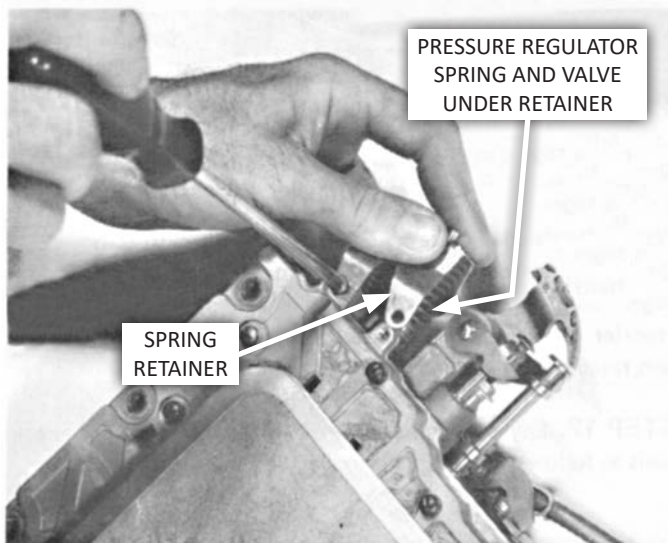

FIG. 4
5. **Carefully remove the spring retainer** (3 screws, Fig. 4).
15. Insert the pressure regulator adjusting screw and plate in the spring retainer. The edges of the plate fit close to the retainer when properly installed. Move the assembled retainer into place, engaging both springs. Push the retainer down against the springs, align the 3 screw holes, and hand start all 3 screws (Fig. 4). While continuing to hold the retainer against the springs, gradually run the screws down finger tight.